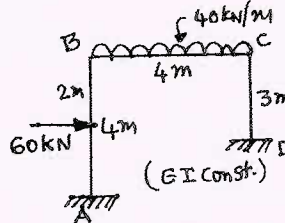

Fig.Q.2
- 2 Analyze the Frame shown in Fig.Q.2 by slope deflection method. Draw BMD and elastic curve. (20 Marks)